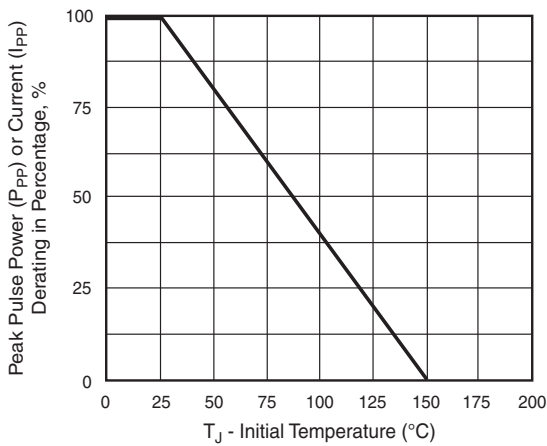
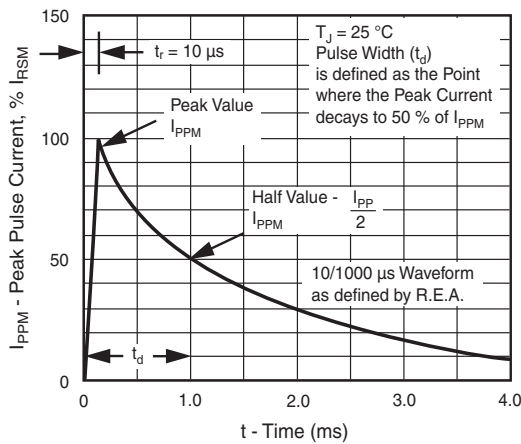

Fig. 2 - Pulse Power or Current vs. Initial Junction Temperature
Fig. 3 - Pulse Waveform
Note 1. Non-repetitive current pulse, per Fig. 3 and derated above $T_A=25^{\circ}\text{C}$ per Fig. 2
2. Surge current waveform per Fig. 3 and derated per Fig. 2